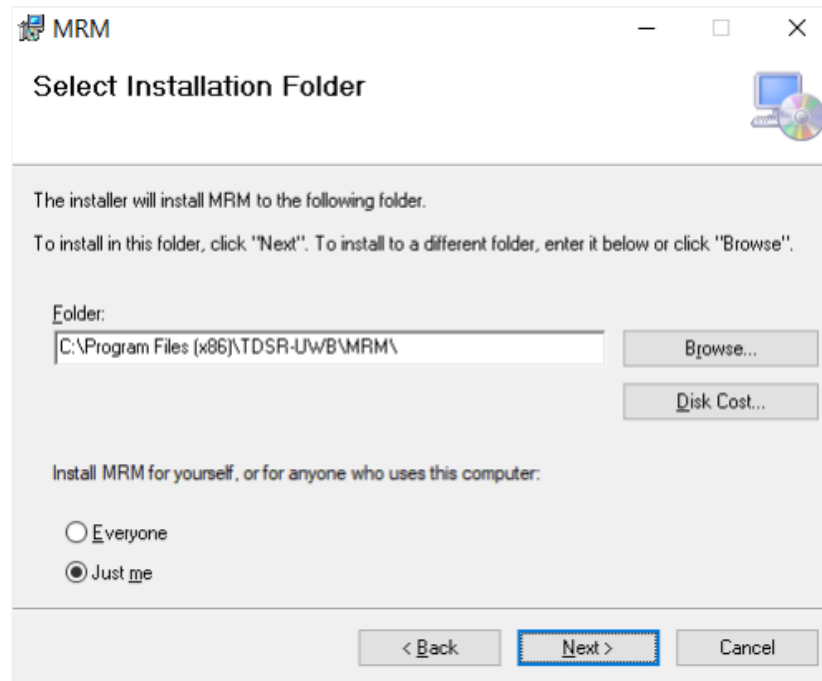

Fig. 2: Screen for designating Program Files location for MRM software
5. When you reach the screen shown in **Figure 2**, you will be given a choice of directories into which the MRM software can be loaded.